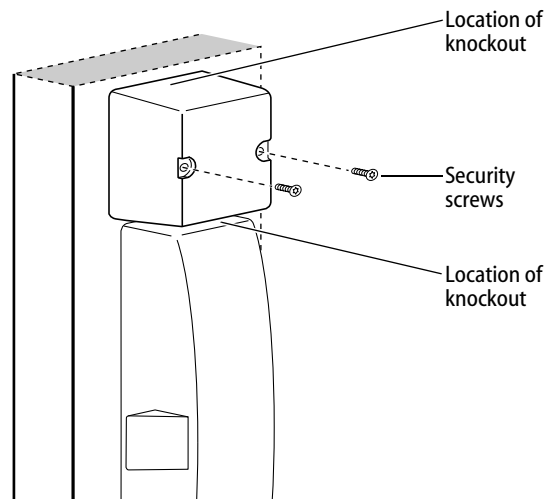

Figure 14 Installing the battery cover on the bracket
- 1 **If installing with a surface rod exit device**, remove the knockouts for the rod from the battery cover. See Figure 14.
- 3 Use a T15 TORX bit driver to secure the battery compartment cover with the security screws. Tighten firmly. See Figure 14.